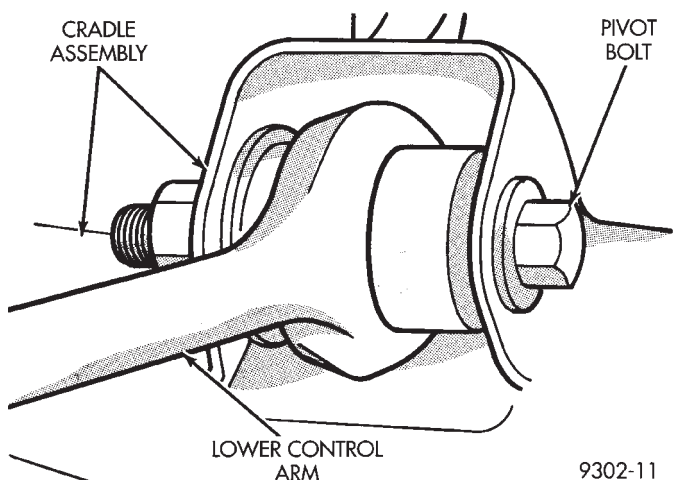

Fig. 13 Lower Control Arm Pivot Bolt
(9) Lower vehicle so the suspension is supporting vehicles weight (control arm at design height). Torque the lower control arm pivot bushing to cradle bracket attaching bolt (Fig. 13) to 123 N•m (90 ft. lbs.).